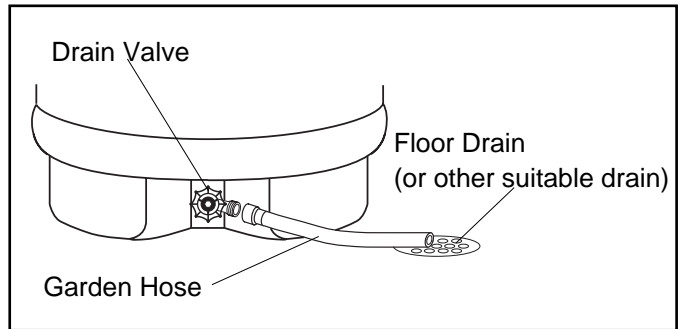

Figure 12 - Draining the Tank
In order to drain water heater, turn off the power supply, then turn off cold water supply. Next, it is necessary to open a hot water faucet or lift the handle on the relief valve to admit air to the tank, and KEEP OPEN. Attach a garden hose to the drain valve on the water heater, and open the valve. Direct the stream of water to a drain where it will do no damage. (See Figure 12).
- D. A water heater's tank can act as a settling basin for solids (sand, silt, dirt and mineral scale) suspended in the water. It is, therefore, not uncommon for these deposits to accumulate in the bottom of the tank. It is suggested that a few quarts of water be drained from the water heater's tank **ONCE EVERY MONTH** to clean the tank of these deposits. (See Figure 12)
- C. Fasten a length of garden hose to the drain valve. Place the other end of the hose at a floor drain, or other suitable location. (See Figure 12)